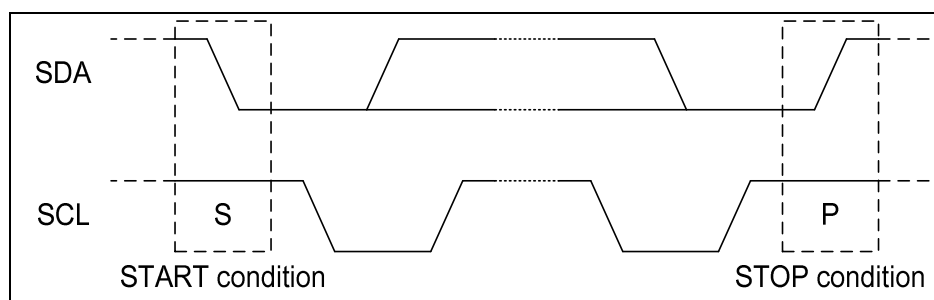

Figure 15 Definition of START and STOP Condition
Both SDA and SCL lines remain HIGH when the bus is not busy. A HIGH-to-LOW transition of SDA, while SCL is HIGH is defined as the START condition (S). A LOW-to-HIGH transition of SDA while SCL is HIGH is defined as the STOP condition (P). The START and STOP conditions are illustrated in **Figure 15**.